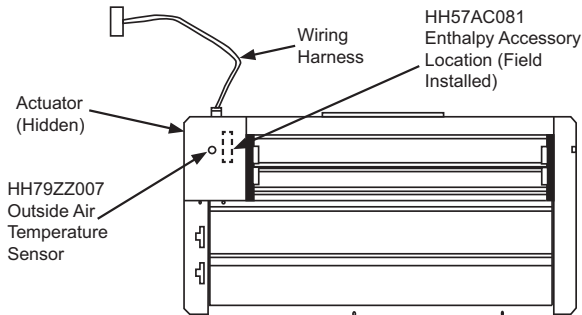

Fig. 26 - Vertical EconoMi\$er X Component Locations
2. Remove the existing unit filter access panel. Raise the panel and swing the bottom outward. The panel is now disengaged from the track and can be removed and discarded (See Fig. 26).